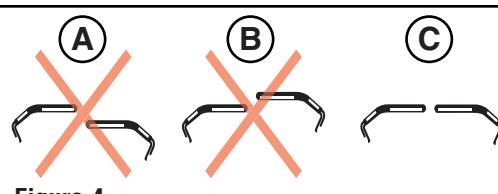

Figure 4
- Lever Alignment Adjustment:** From the neutral position, pivot the ground speed / steering control levers in towards the center of the machine. If one of the levers is tilted further forward (B, Figure 4) or back (A) then the other lever, pivot the levers forward or backwards to align (C) with each other. Tighten the mounting bolts.